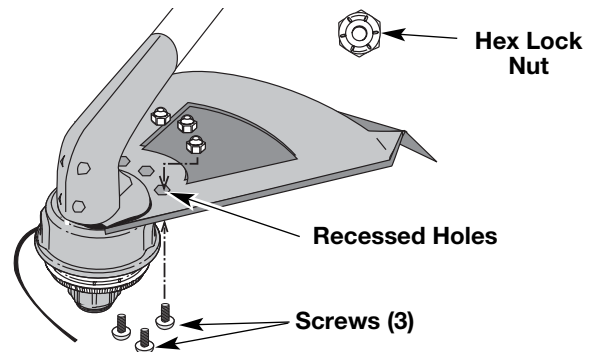

Fig. 3
2. Place a hex lock nut into one of the three recessed holes on the top of the cutting attachment shield (Fig 3).
3. Install a screw into the hole from the bottom of the cutting attachment shield and screw it into the nut installed in step 2 (Fig 3). Do not tighten.